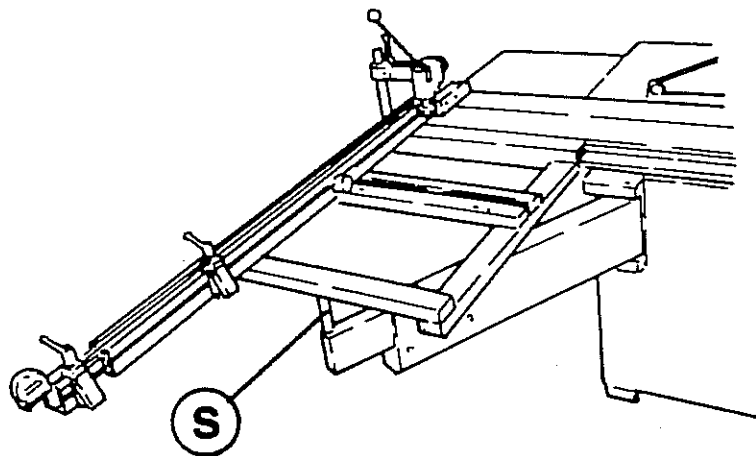

Fig.7
- 2) Fit pivot (S fig.7) into pivoting arm end and rest the frame on it.